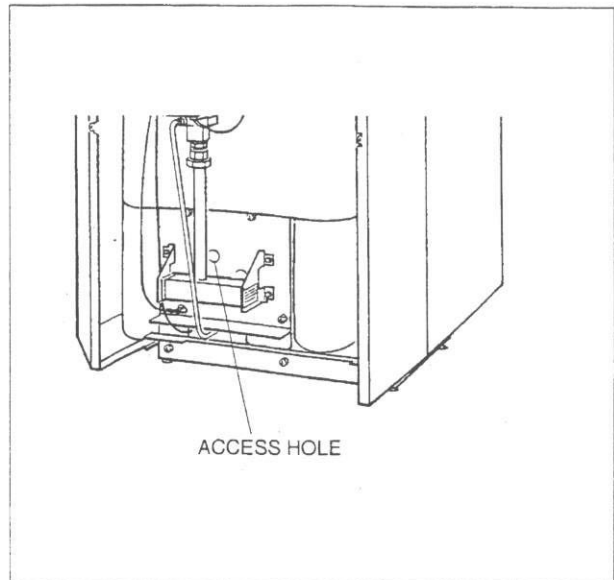

Fig.8
- 36 Wait five (5) minutes to clear out any gas. Then smell for gas, including near the floor. If you smell gas, **STOP!** Follow "B" in the safety information printed on page 5. If you do not smell gas, go to the next step.
- 37 Locate the pilot assembly by looking through the access hole in the burner assembly plate, fig.8.